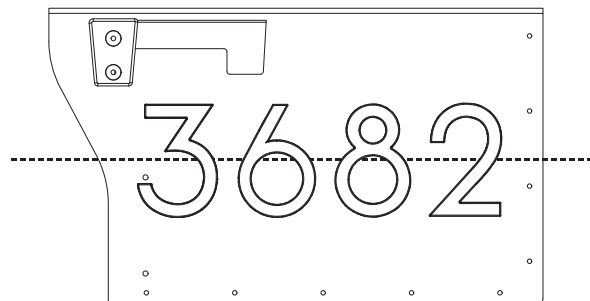

Figure 6
- 4 Placement of your Modern Stand-Off Address numbers is up to your discretion. Depending on how long your address is we recommend central/middle mounting. Use caution and do not drag magnets along Mail Vault surface, pull magnet away, off surface to readjust and to avoid scratches. Use an straight edge/ruler to ensure numbers are level, oriented correctly and evenly spaced (See Figure 6)